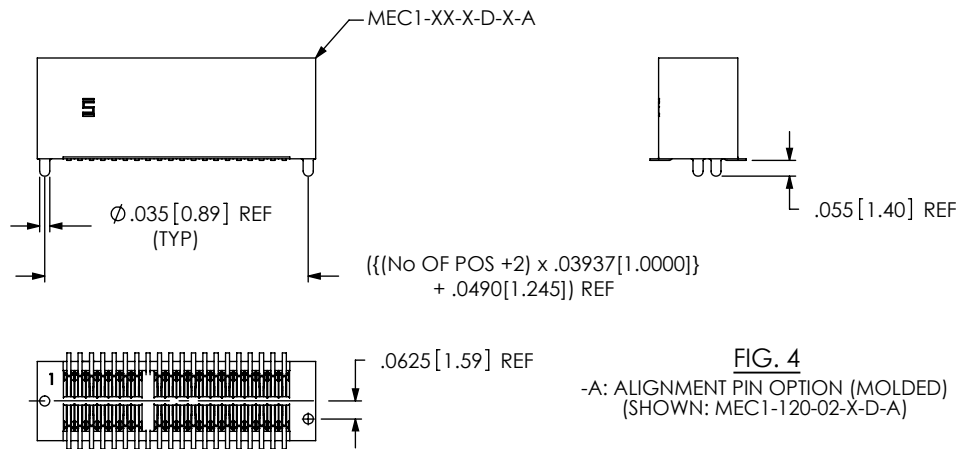

FIG. 4
-A: ALIGNMENT PIN (MOLDED, SEE FIG. 4, SHT. 2) (USE MEC1-XX-X-D-X-A)